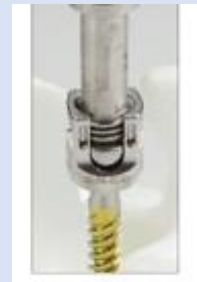

Figure 6
- While holding the screw firmly on the Polyaxial Screw Driver, thread the knob clockwise until fully engaged and secure (Figure 6).